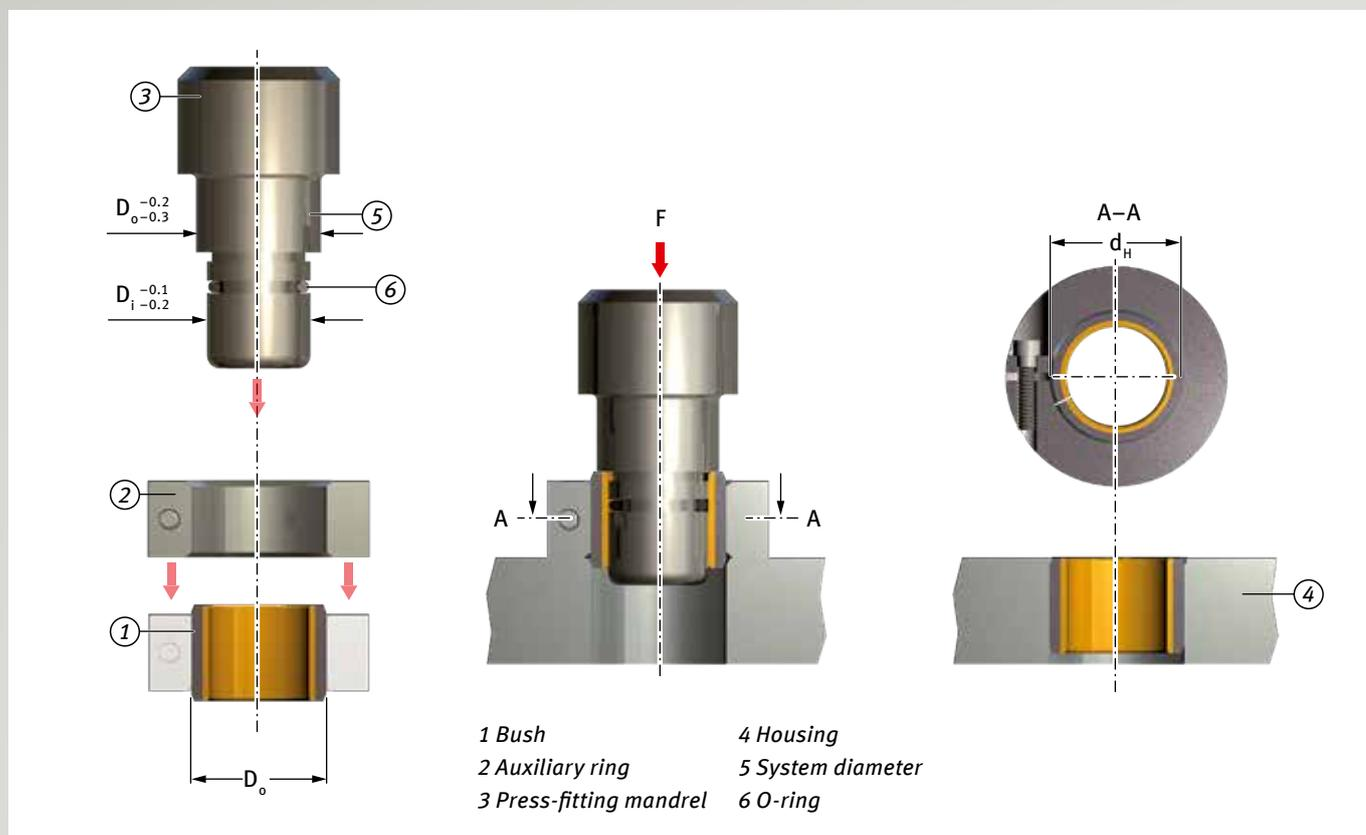

Fig. 53: Press-fitting bushes,  $D_o \geq 55$  mm, with auxiliary ring
- Press-fitting with mandrel and auxiliary ring as per Fig. 53.
Figure 53 shows calibration using a mandrel. Table 36 contains approximate values for the diameter of the calibrating mandrel  $d_k$ . Precise values can only be ascertained through tests.